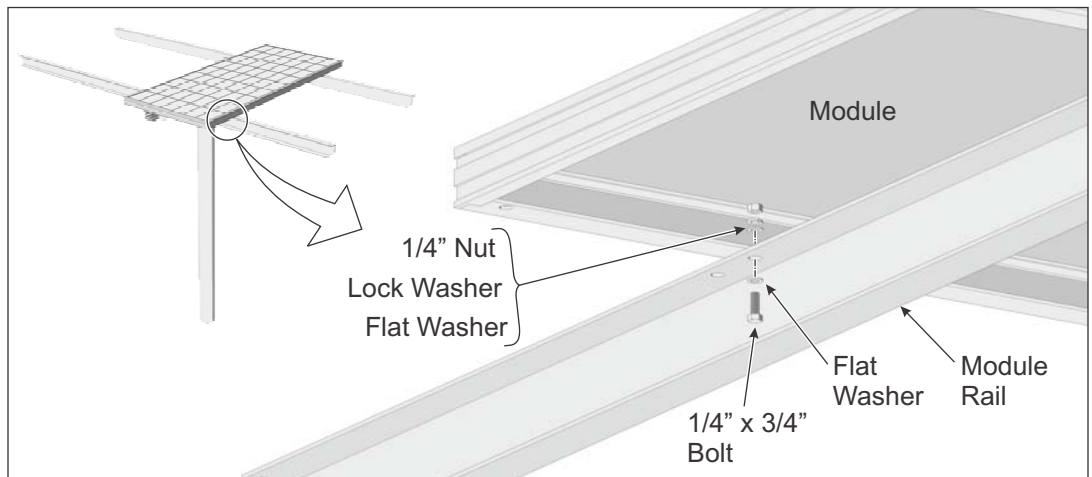

Figure 4-1: Installing PV Modules to Module Rails
- A. Place an internal PV Module on the Module Rails. Align the mounting holes and secure with 1/4" x 3/4" bolts and hardware. Each Module has four attachment points. Finger-tighten for now. (See Figure 4-1)